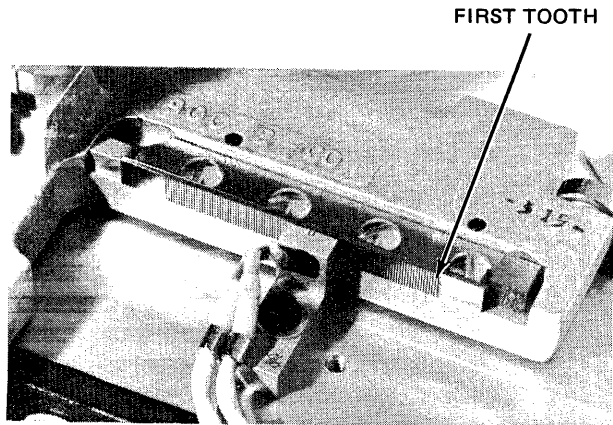

Figure 5-36. Index Rack Flat and First Tooth
- n. Position index rack so that cylinder transducer is on rack flat, approaching first tooth (see Figure 5-36).